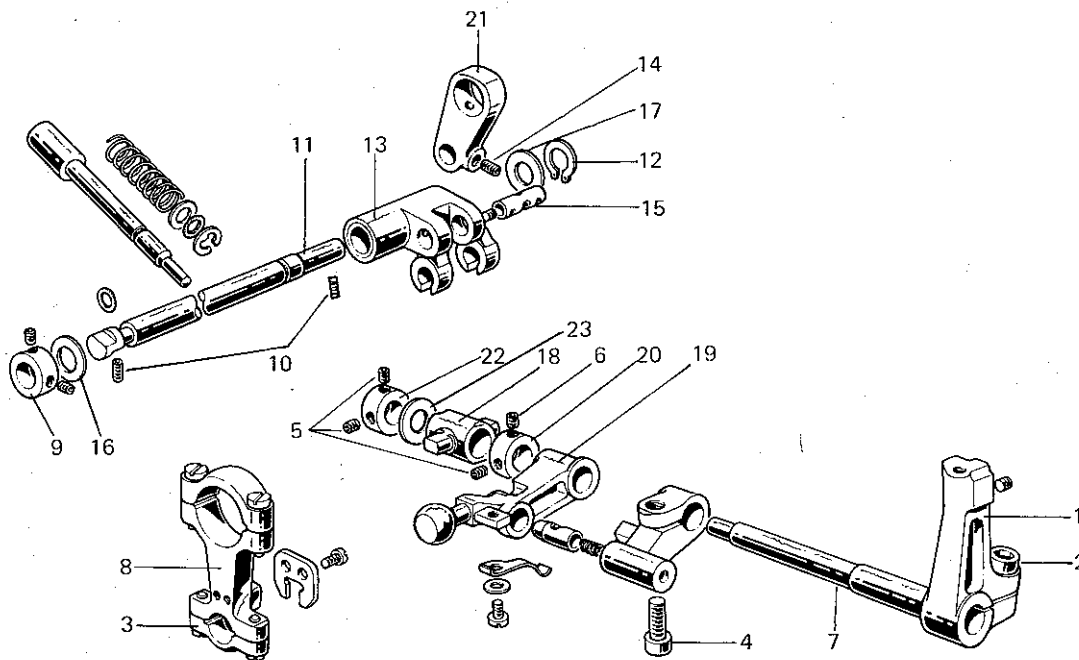

fig. 1
- Take off shaft 7 (fig. 1)
- Disassemble big-end of con-rod 8 (fig. 1)
- Unscrew ring screws 9 (fig. 1)
- Slacken screws of retainer 10 (fig. 1) set in the base at the end of pin 11 (fig. 1)
- Remove snap ring 12 (fig. 1) and take out pin 11
- Disassemble lever 13 (fig. 1) removing screw 14 and taking out pin 15
- Take off con-rod 16 (fig. 1) levering on the machine handwheel and springing the shaft outwards; this is the only way to disassemble said con-rod.
- Insert con-rod 21 (fig. 1), levering on the machine handwheel and springing the shaft outwards. Make sure that the setting notch on the con-rod is facing towards the outside of the machine
- Assemble lever 13 (fig. 1) to the con-rod by inserting pin 15 (fig. 1), take care to insert it with the internal wick plug screw towards the outside of the machine and the notch turned towards the hole for screw 14 (fig. 1)
- Insert pin 11 (fig. 1), setting the following parts on it in this order: ring 9, washer 16, lever 13, washer 17 and snap ring 12 which is fitted with the special clamp in the collar on the shaft
- Bring ring 9 (fig. 1) close up, thus packing lever 13 (fig. 1)